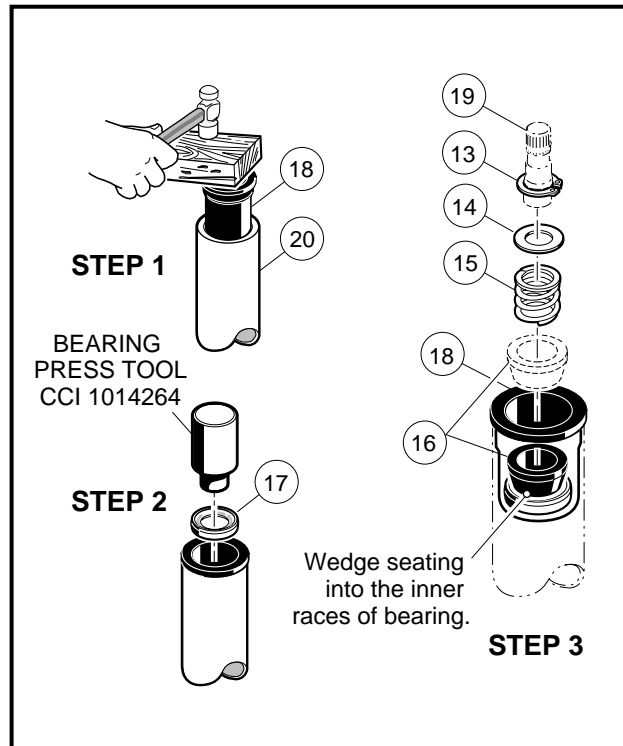

Figure 7-5 Steering Shaft – Bottom End
1. Insert bearing seat (18) into both ends of steering tube (20). Place a block of wood on bearing seat and tap lightly on block until bearing seat (18) is fully seated in steering tube (20) (**Figure 7-5, Page 7-6**).
2. Press the bearing (17) all the way into the bearing seat (18) using a steering column bearing press tool (CCI 1014264) or a metal tube approximately six inches (15.2 cm) long with a maximum outer diameter of 1-3/16 inches (3.3 cm) and a minimum inside diameter of 7/8 inch (2.2 cm). Be sure the bearing is installed in the bearing seat as shown (**Figure 7-5, Page 7-6**) so the wedge (16) will ride against the inner race of the bearing.
3. Install the wedge (16), spring (15), washer (14), and snap ring (13) onto the bottom end of the steering shaft (19) (Figure 7-5, Page 7-6).
- Turn the assembly over and place the shaft (19) on a bench. Install the wedge (16) and retaining ring (22) onto the top of the shaft. Be sure the prongs on the retaining ring face up and away from the wedge. Use a steering column retaining ring tool (CCI 1014259) to seat the retaining ring to the proper depth. Support end of tube while pressing. If you do not have the recommended tool, use the same tube as was used in Step 2 to press the retaining ring onto the top of the shaft. The retaining ring should be pressed onto the shaft until 2 to 2-1/8 inches (5.1-5.4 cm) of the shaft extends from the top of the bearing seat in the steering tube (Figure 7-5, Page 7-6).